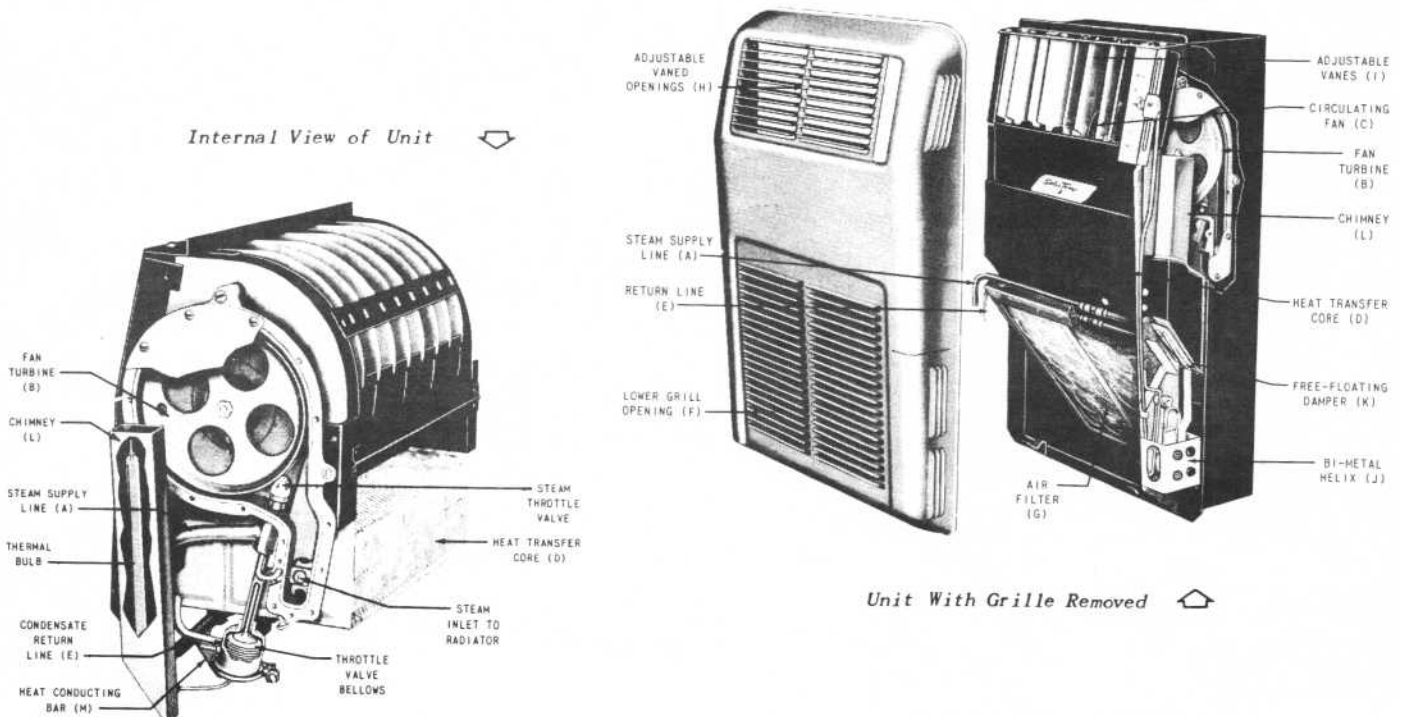

Figure 37 - Details of Unit Construction
25. DESIGN AND OPERATION (See Figure 37)